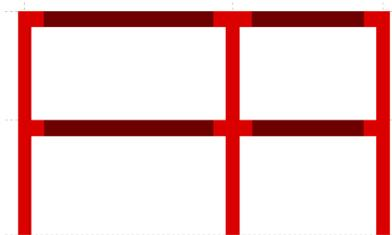

Figure 2 - SidePlate® frame
- Once the beam ends have been assigned, RAM Frame will display a red rectangle symbolizing a SidePlate® moment connection as shown in figure 2.